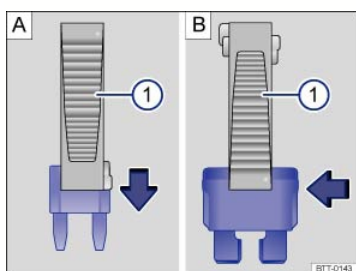

Fig. 203 Removing or inserting a fuse using the plastic tweezers.
- If needed, remove the plastic tweezers ① from the fuse box cover.
- For *small fuses*, slide the tweezers ⇒ Fig. 203① onto the fuse from the top **A**.
- For *larger fuses*, slide the tweezers ⇒ Fig. 203① onto the fuse from the side **B**.
- If the fuse is blown, replace the fuse with a new fuse of the *same* amperage (same color and same imprint) and *same* overall size ⇒ ①.